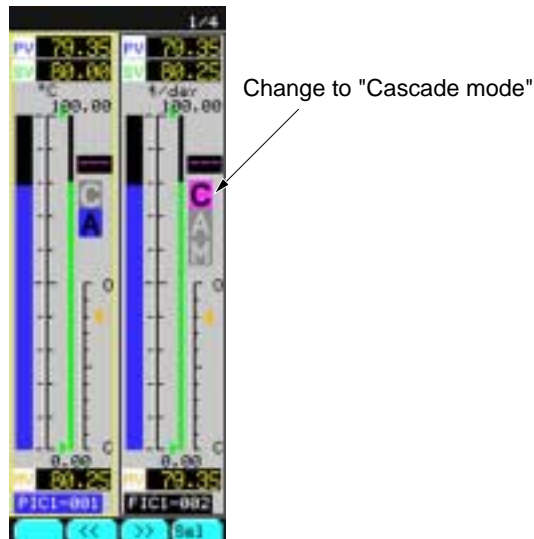

Fig. 4-49
- ① Hold down the “Cascade” mode key several seconds. “C” will light (Fig. 4-49). If “C” blinks here, “R-ACK” secondary setting may be wrong. Recheck it.